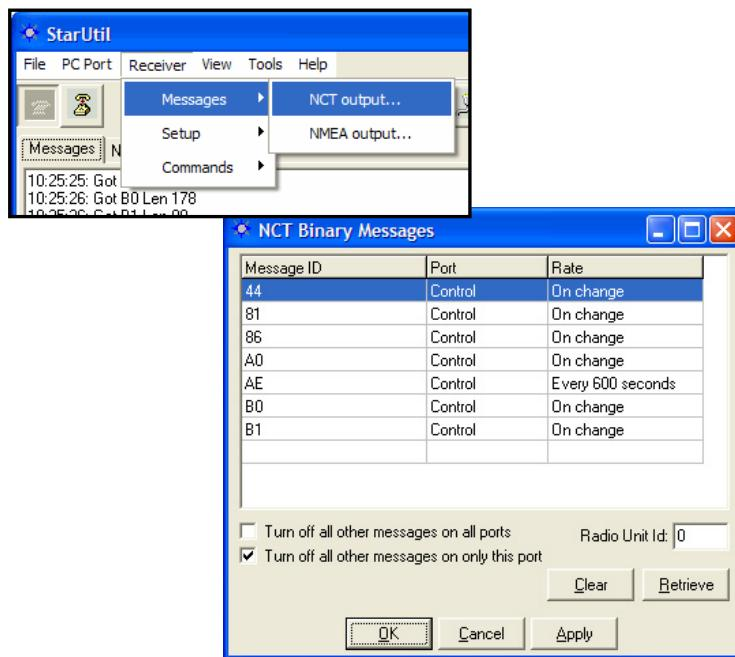

Figure 86: NCT Binary Message Output List
- ✓ Select *Receiver > Messages > NCT output* from the menu bar. The *NCT Binary Messages* window opens with the current message output list (see Figure 86).